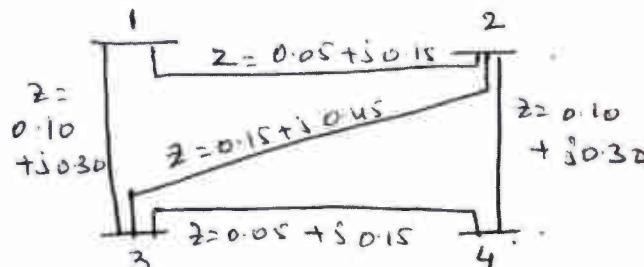

Fig.Q2(b)
b. For the sample system of Fig.Q2(b), the generations are connected to all the 4-buses, while loads are at buses 2 and 3. Values of real and reactive powers are listed in Table Q2(b). All buses other than the slack bus are PQ type. (10 Marks)